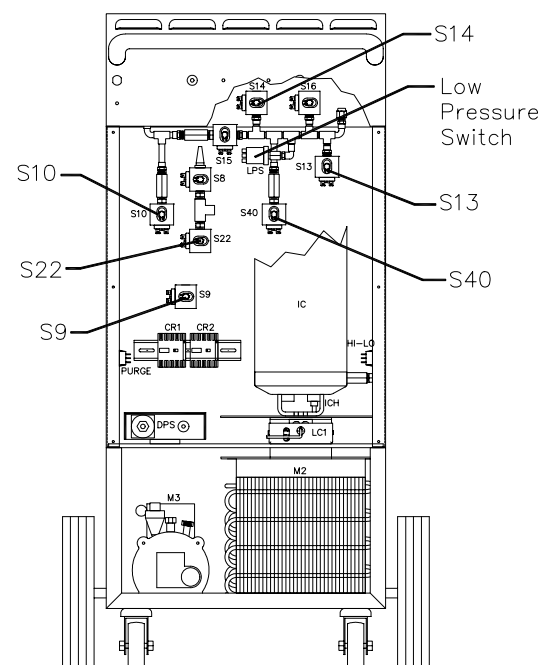

Figure 2
3. **Solenoid S9** (Figure 2 - the following steps should be done while in “RECYCLE” mode)
- b. Solenoid S22 (Figure 2 - this should be done in the "Automatic" mode)
2. Solenoid S10 (Figure 2)
3. Solenoid S40 (Figure 2)
2. Low Pressure Switch (LPS) defective (Figure 2)
- 3. Solenoid S14** (Figure 2)
- 1. Low Pressure Switch defective** (Figure 2)
- 3. Solenoid S13** (Figure 2)